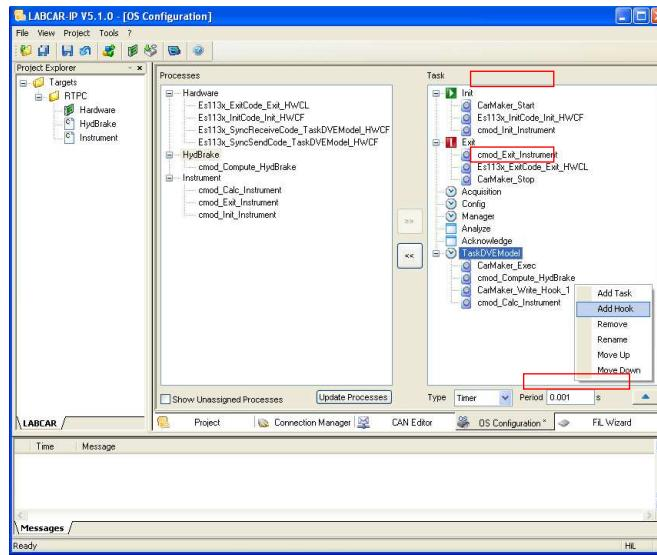

Figure 1.29: Placing hooks in LABCAR Integration Platform (IP)
To use a RT Plugin, a so called hook has to be placed at a suitable position within the LABCAR process list. This hook defines the calling context of the RT Plugin. For defining a new hook, open the LABCAR Integration Platform (IP), load your project and change to the tab "OS Configuration". To add a hook between two processes, right-click at the appropriate position within the task list and select "Add Hook" (see Figure 1.29 on page 50).